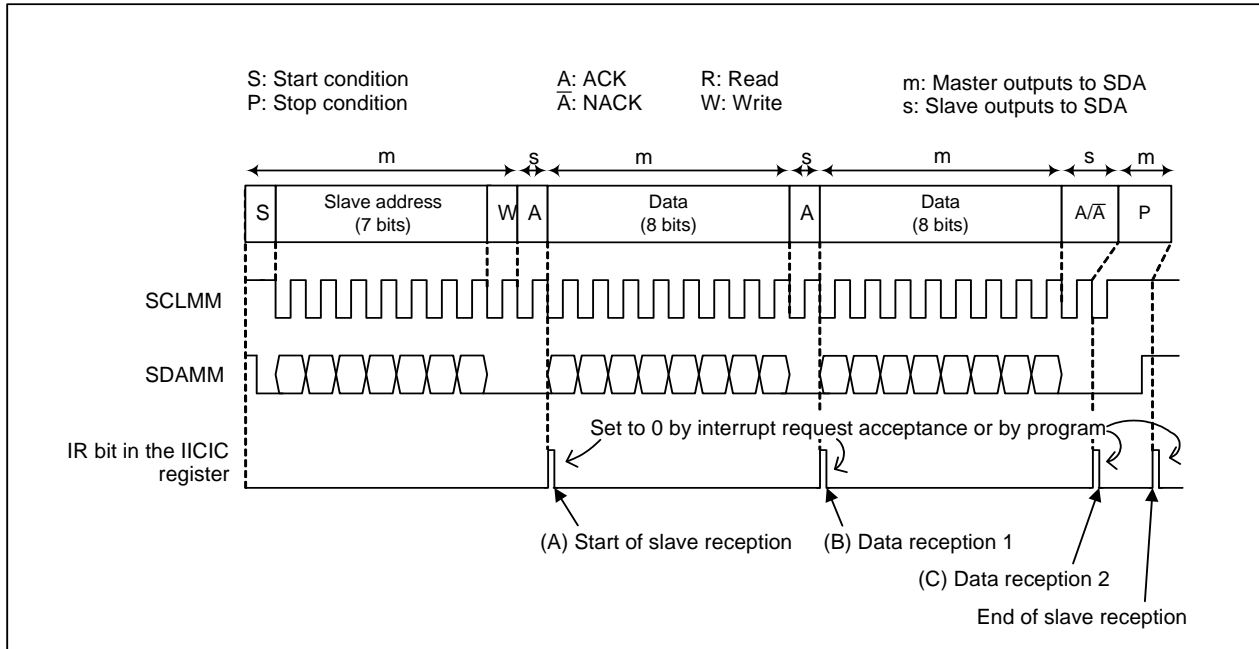

Figure 25.19 Example of Slave Reception
The slave reception is described in this section. The initial settings described in 25.3.10.1 “Initial Setting” are assumed to be completed. Figure 25.19 shows the example of slave reception. The following programs (A) to (C) are executed at the (A) to (C) in Figure 25.19, respectively.